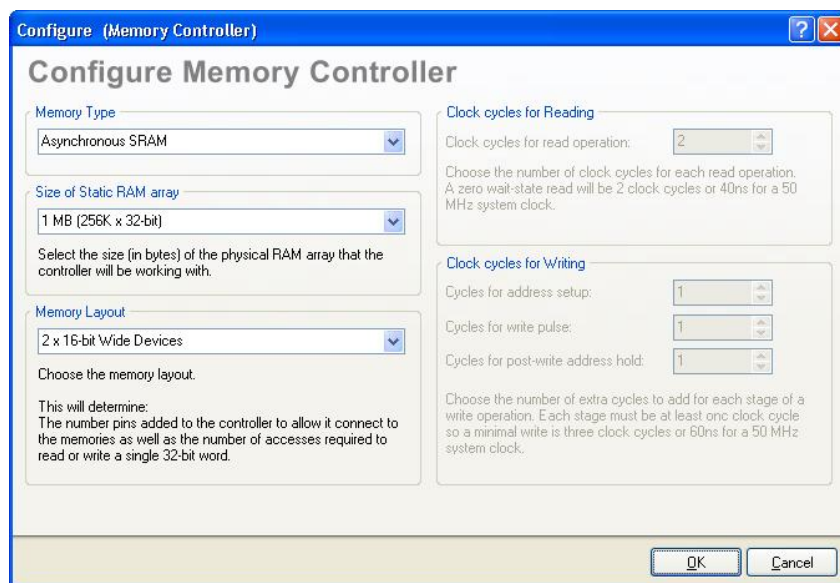

Figure 17. Configuring the wishbone memory controller U4
2. Right click U4 and select **Configure U4 (WB_MEM_CTRL)...** to launch the configuration dialog. Configure U4 as it appears in Figure 17.